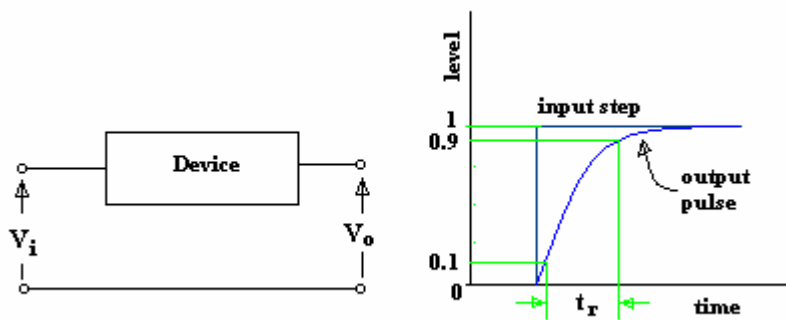

Figure 15: Rise time
0.4 V in every μs, because of the limited slew rate. So it needs 25 μs for the output to reach a level of 10 V. Similar is the case with fall of the output level from high to low level also. Impact on different pulse durations is illustrated in figure 15.
Rise time, in a general sense, is illustrated in figure 15. The output shown in the figure is on a normalized scale, in the sense that maximum output is equated to unity. Rise time is the time taken by the output pulse to reach 90% of its full output from the time it has reached 10 % of its full output, for a step input. An op amp also behaves like a normal lag network and introduces slight delay. Thus rise time is an important specification for op amps.